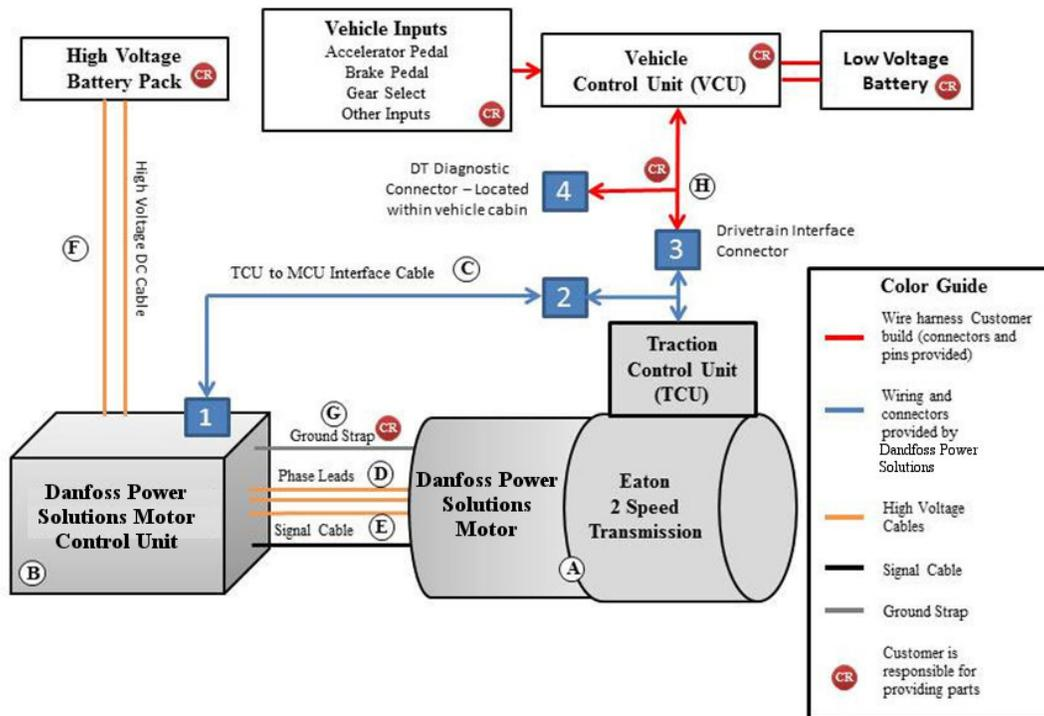

Figure 1.1: Block Diagram of the Total System
The **Signal Cable** (Cable E in Figure 1.1) may be referred to as **motor position** or **temperature cable**.
- The Motor/Transmission/TCU with a ship kit containing mating connectors with pins/hardware for fabricating cable between the drivetrain interface connector (connector 3 in Figure 1.1) and the Vehicle Control Unit.
- The TCU to MCU Interface Cable (item C in Figure 1.1).
- The Signal Cable (item E in Figure 1.1).
- DC Cable (item F in Figure 1.1).
- The ship kit will also contain the connector housings and pins/hardware to fabricate cable between the Drivetrain Interface Connector (connector 3 in Figure 1.1) and DT2 Diagnostic Connector (connector 4 in Figure 1.1). Note: The customer is responsible for supplying the cabling between the VCU, the DT2 Diagnostic Connector, and the Drivetrain Interface Connector.
The Signal Cable (cable E in Figure 1.1) contains information about the position of the rotor, and the temperatures of the motor's rotor and stator. The controller depends on that information to properly control the motor. The data integrity of the Signal Cable is necessary for optimum operation and care must be taken to ensure the reliability of these signals.
The TCU to MCU Interface Cable (cable C in Figure 1.1) provides 24 V power to the MCU, CAN signals from the TCU, and RS232 com signals from the Diagnostic Software (Section 8). As with the Signal Cable, insuring data integrity is required for optimum performance.